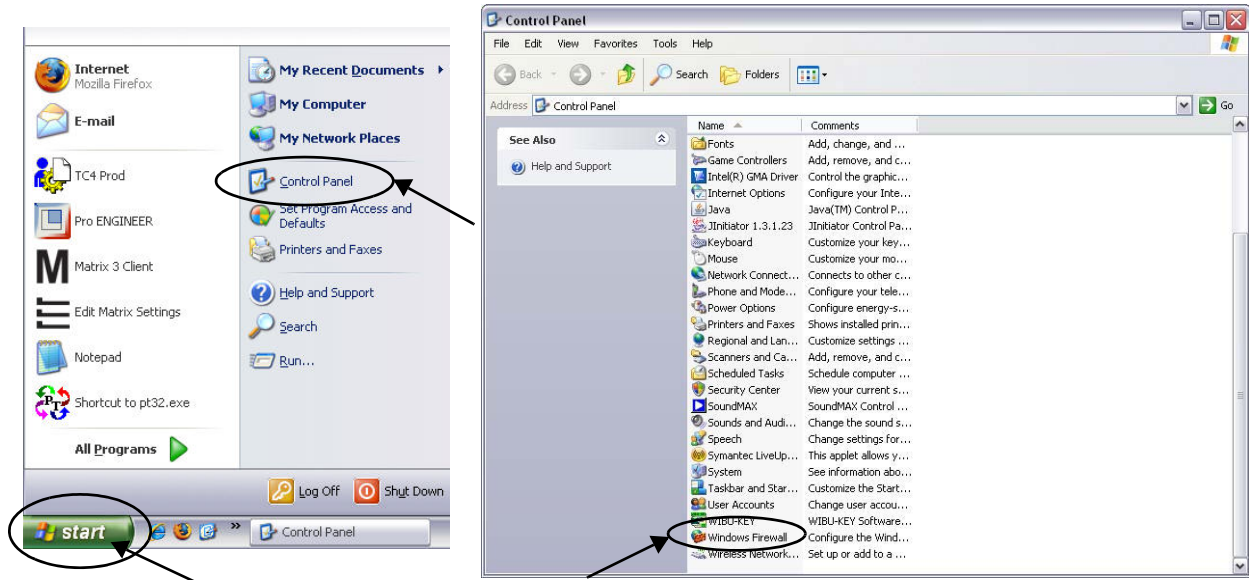

FIG. 33
1. To launch editor, click on Start/All Programs/Windows Firewall (FIG. 33).